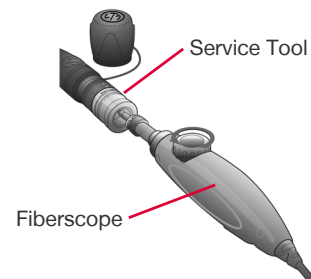

Figure 2-12: DUO Service Tool Inspection
- Step 10. Optional: Inspect fiber ferrules with fiberscope. **(Figure 2-12)**